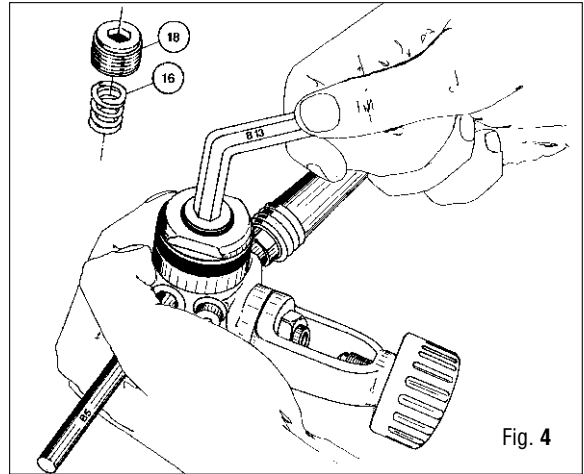

Fig. 4
9. By the special provided wrench (B13), unscrew the regulating nut (18) and take off the spring (16). (Fig. 4)